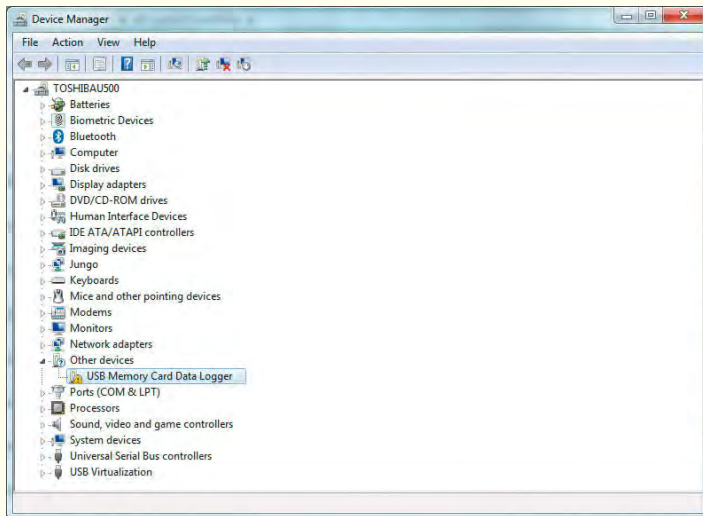

Fig.5: this is how the *USB Data Logger* entry appears in Device Manager before the Windows driver is installed
- 5) Go to Control Panel → Device Manager. A window will appear, as shown in Fig.5, and this should show the 'USB Memory Card Data Logger' device with a yellow exclamation mark next to it.